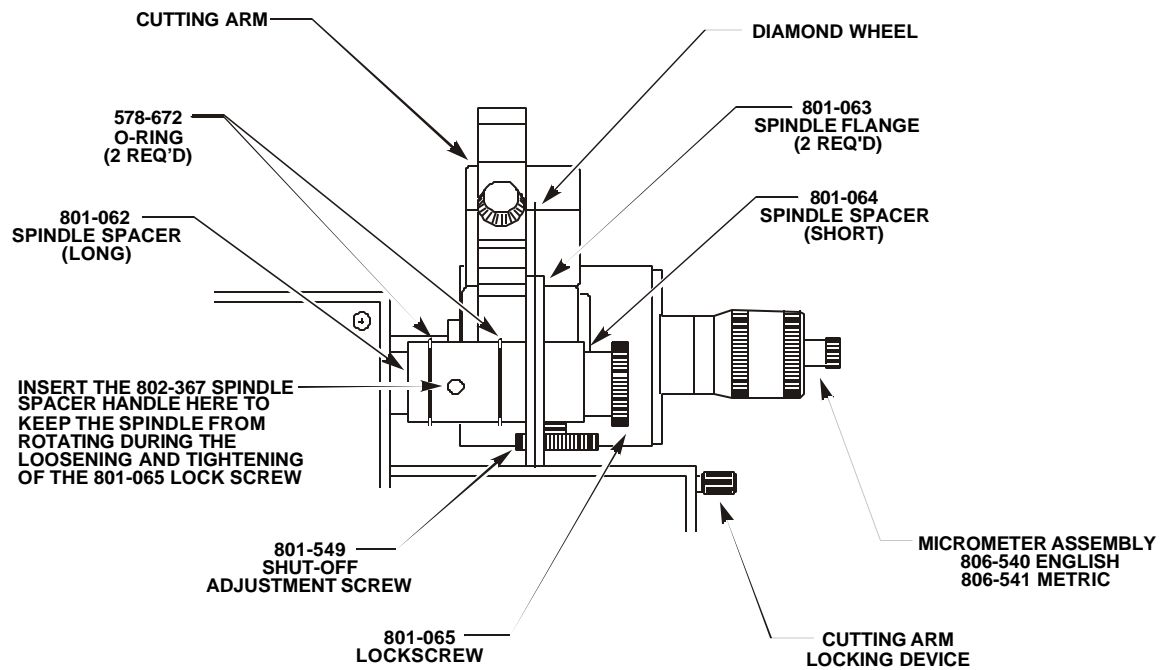
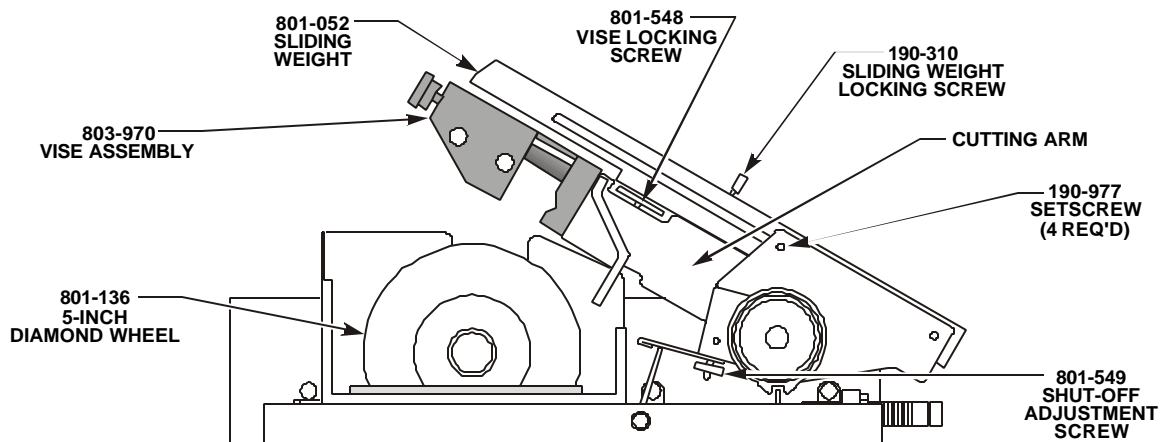

Figure 4
Figure 5
- B. Holding on to the vise, raise the cutting arm to its up-most position (figure 5, page 22).
- D. Insert the spindle spacer handle to keep the spindle from rotating (figure 4, page 22).
- E. Remove the vise locking screw (figure 5, page 22), short spindle spacer, two spindle flanges, and long spindle spacer from the spindle (figure 4, page 22).
- 2) Make sure the two o-rings are on the spacer (figure 4, page 22).
- D. Slide the flange onto the spindle shaft (figure 4, page 22).
- G. Slide the short spindle spacer on the spindle shaft (figure 4, page 22).
- H. Secure all spindle parts to the spindle shaft with the lock screw (figure 4, page 22).
- I. Insert and hold the spindle spacer handle in the hole of the long spindle spacer to prevent rotation of the spindle when tightening the lock screw (figure 4, page 22).
1. Place the material to be sectioned into the vise and tighten securely (figure 5, page 22).
3. While holding the cutting arm, open the cutting arm control valve to the 2.5 position (approximately middle) of its rotational range (figure 4, page 22).
4. Lower the loading arm to just above the cut-off wheel and position the sectioning path by turning the micrometer adjustment (figure 4, page 22).
6. Loosen the locking knob and move the sliding weight forward. The sliding weight acts as a counterbalance to the control valve; the farther forward the sliding weight is positioned, the more weight is added to the material being sectioned (figure 5, page 22).
- *It is recommended that the cutting arm control valve be left in the counter-clockwise stop position during sectioning operations. Open the cutting arm control valve only when positioning the vise to the cut-off wheel or adjusting the automatic shut-off adjustment screw (figure 5, page 22).*
The automatic shut-off adjustment screw can be adjusted to shut-off the unit after sectioning has been completed (figure 5, page 22).
5. Turn the knurled shut-off adjustment screw clockwise until the unit shuts off (figure 5, page 22).
1. Secure the sample in the vise (figure 5, page 22).
2. Position the vise for the first cut by adjusting the micrometer adjustment to an arbitrary position but making sure a line on the drum coincides with the horizontal line on the barrel (figure 4, page 22).